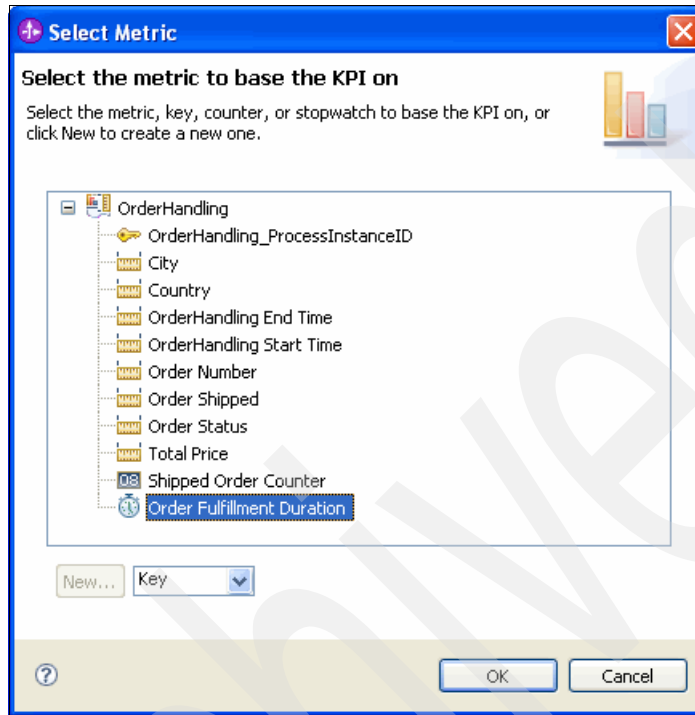

Figure 8-107 Selecting the metric for a KPI
- d. In the Select Metric window (Figure 8-107), select **Order Fulfillment Duration** and click **OK**.